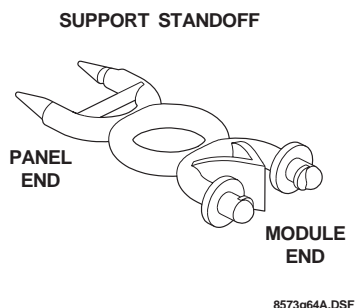

Figure 22. Support Standoff
- ❑ The panel includes two support standoffs you install to secure module backplates to the panel (see Figure 22).